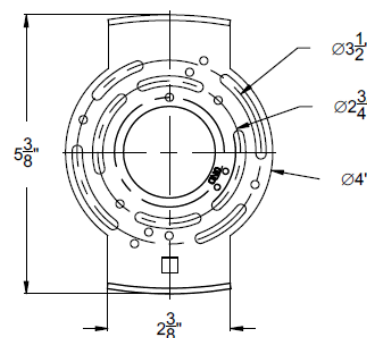

Fig. 2 Wiring
CONNECTING THE WIRES (Fig. 2)
7. Connect the driver’s input/output wires with junction box wires as shown (Fig. 2). Make sure that all wire connectors (A) are secure. If your outlet box has a green or bare copper ground wire, connect the fixture’s ground wire to it. Otherwise, connect the fixture’s ground wire directly to the back plate using the green screw provided. After wires are connected, tuck them carefully inside the junction box.